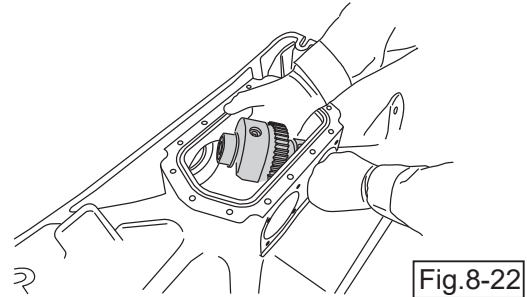

Fig.8-22
- Remove the driven shaft (4) AY from vibrator case. (Fig.8-22)